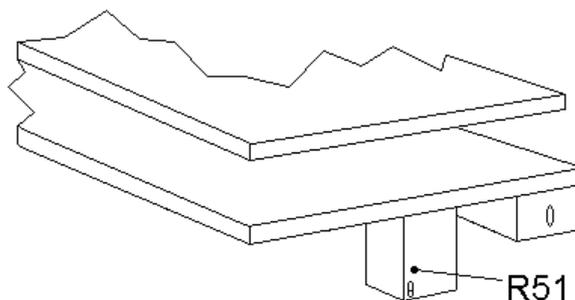

Fig. 7.3.3. Location of Calibration screws on bottom PCB.
6. Place the instrument on a calibration tile and hold down either the BLACK or WHITE read buttons. Use a small screwdriver to adjust the (R51) internal calibration screw, located at the left hand end of the bottom PCB (fig. 7.3.3).